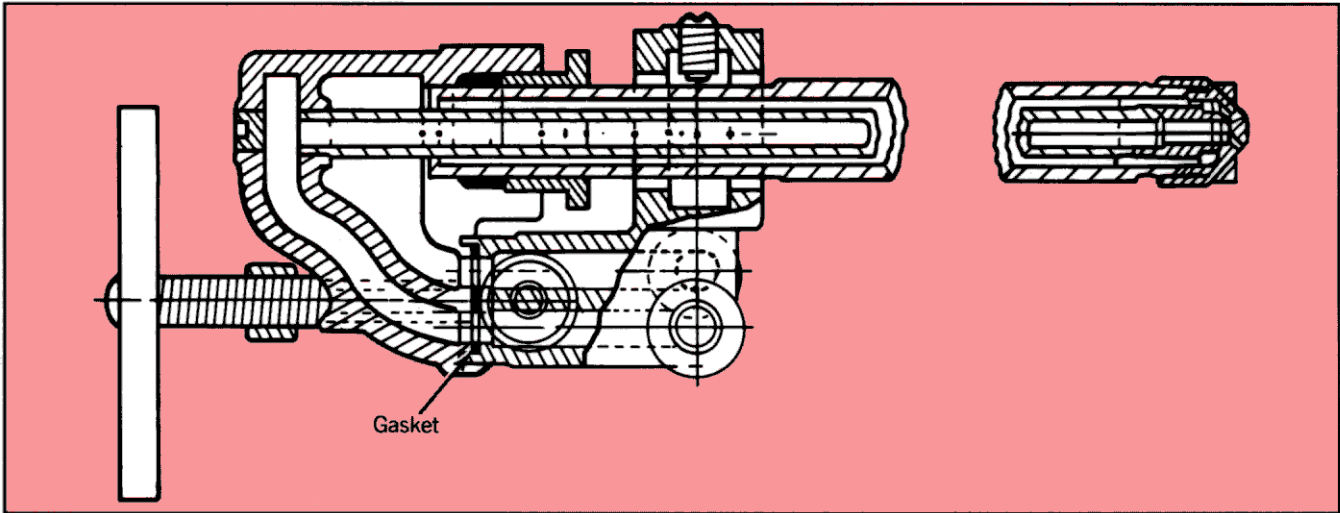

Figure 3 Typical Y Jet atomizer.
1. Replace gasket between atomizer body and yoke. Figure 3 shows a Y jet atomizer. Other atomizers are similar.